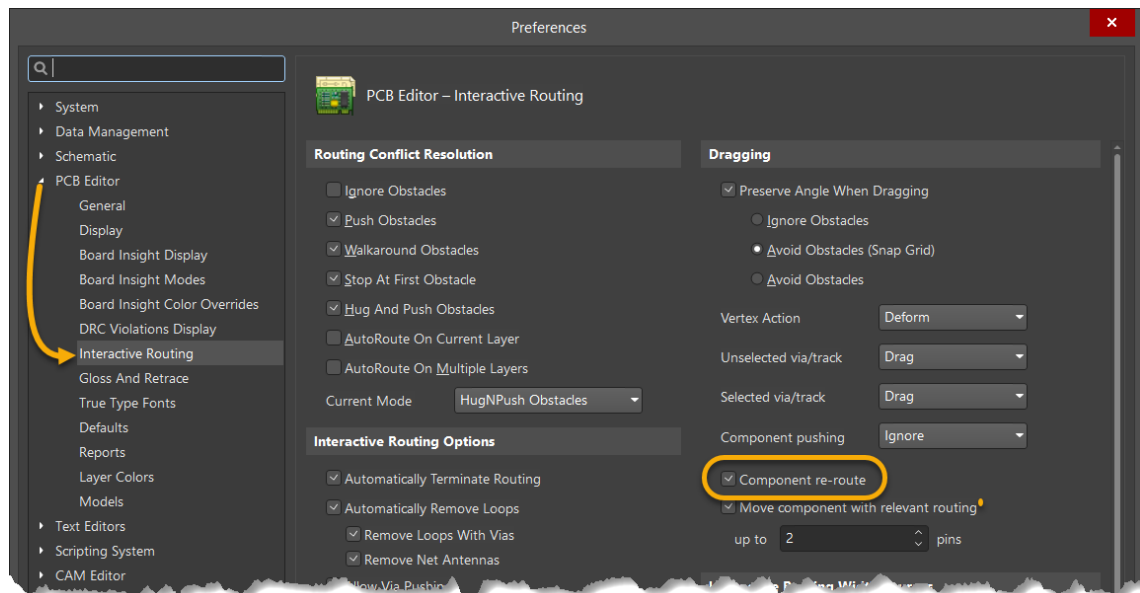

Figure 24. Preferences with active Component re-route
53. Activate the option **Component re-route**, as shown at Figure 24.